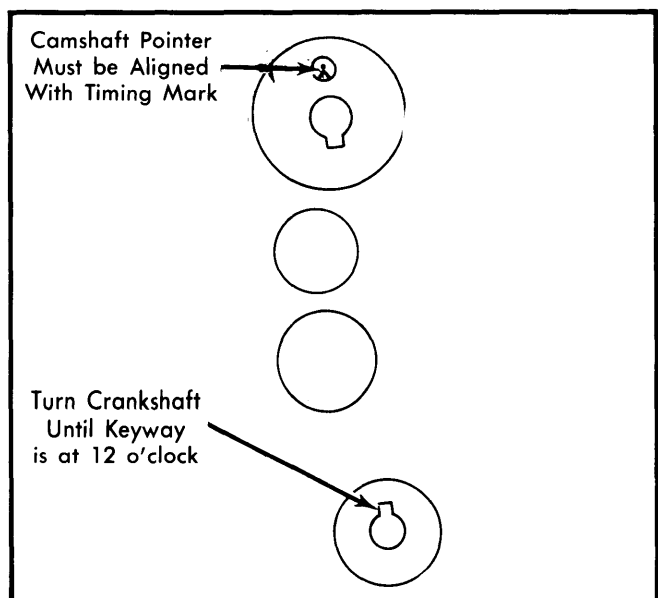

Fig. 9 Position of Camshaft and Crankshaft for Valve Timing
4) Hold crankshaft from turning, using wrench T81P6312-A (or equivalent). Apply 44-48 ft. lbs. torque to the camshaft sprocket. While holding torque, tighten the tensioner attaching bolts. When valve timing is correct, crankshaft keyway should point to 12 o'clock position and camshaft keyway to 6 o'clock as shown in Fig. 9. Do not apply torque to camshaft sprocket attaching bolt. Apply torque to hex on sprocket.